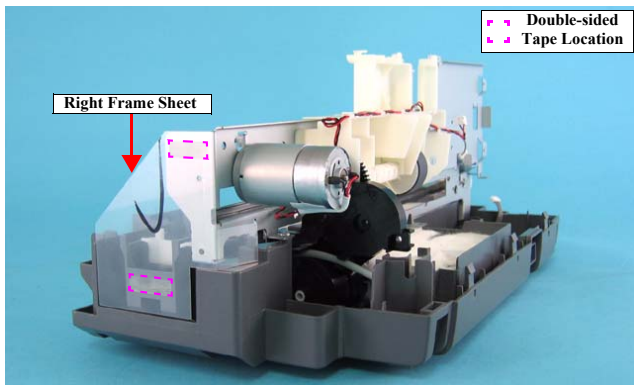

Figure 4-19. Removing Right Frame Sheet
- Attach the Right Frame Sheet with double-sided tape as shown in Figure 4-19.